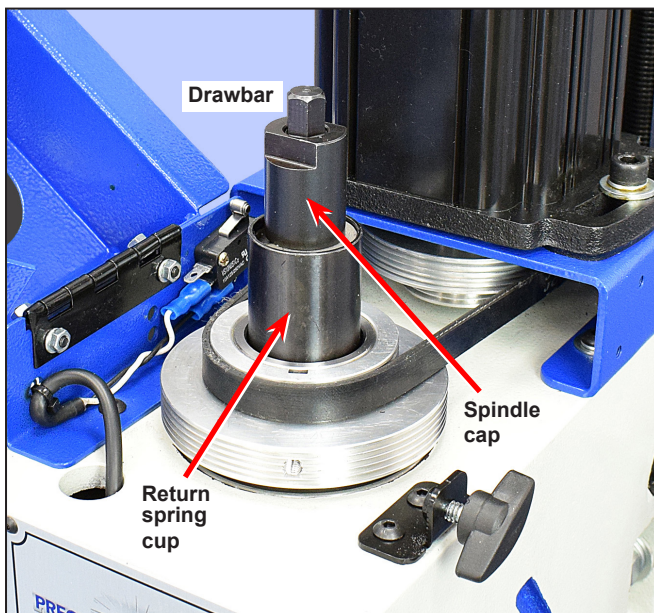

Figure 1-1 Access to the drawbar
2. Swing open the drive cover in front of the motor, Figure 1-1.
11. Re-install the drawbar UNDER the spindle cap, Figure 1-1.